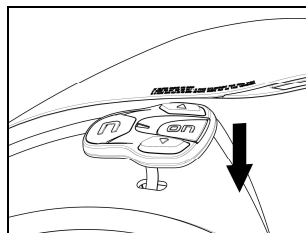

Fig. 35
- Pass the keypad flex through the hole in the outer shell (Fig. 35).